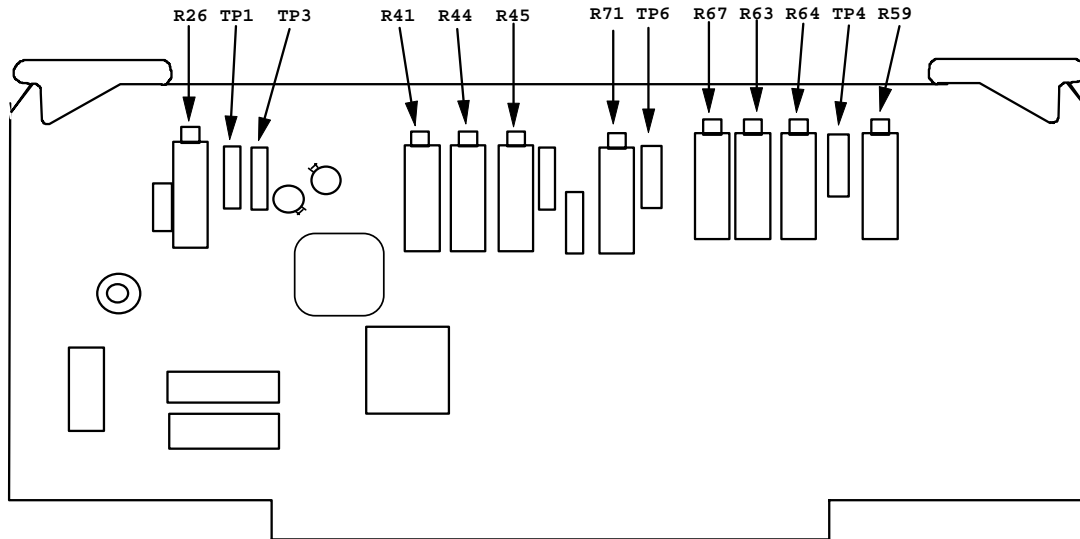

Figure 6. Tachometer circuit board.
(1) Connect frequency counter to TP6 (+) and TP3 (-) on tachometer board (fig. 6). If frequency counter does not indicate between 97 and 103 μ s, adjust R71 (fig. 6) for a 100 μ s indication.
(2) Connect oscilloscope **CH2** input between TP1 (+) and TP3 (fig. 6). If a symmetrical square wave is not on oscilloscope, adjust R26 (fig. 6) for best symmetrical waveform.
- (3) Adjust R41 (fig. 6) for **.0** on % **RPM** indicator (R).
- (4) Adjust R44 and R45 (fig. 6) for **100** on % **RPM** indicator (R).
- (5) Repeat a (1) through (11) above until no further adjustments are required.
(1) Connect multimeter between TP4 (+) and TP3 (-) on tachometer circuit board (fig. 6). If multimeter does not indicate between 7.840 and 7.880 V dc, adjust R67 (fig. 6) for 7.860 V dc (R).
(2) Adjust R59 (fig. 6) for **100.9%** indication on **% RPM** indicator(R).
(3) Adjust R64 (fig. 6) for **111.2%** indication on **% RPM** indicator (R).
(4) Adjust R63 (fig. 6) for **93.1%** indication on **% RPM** indicator (R).